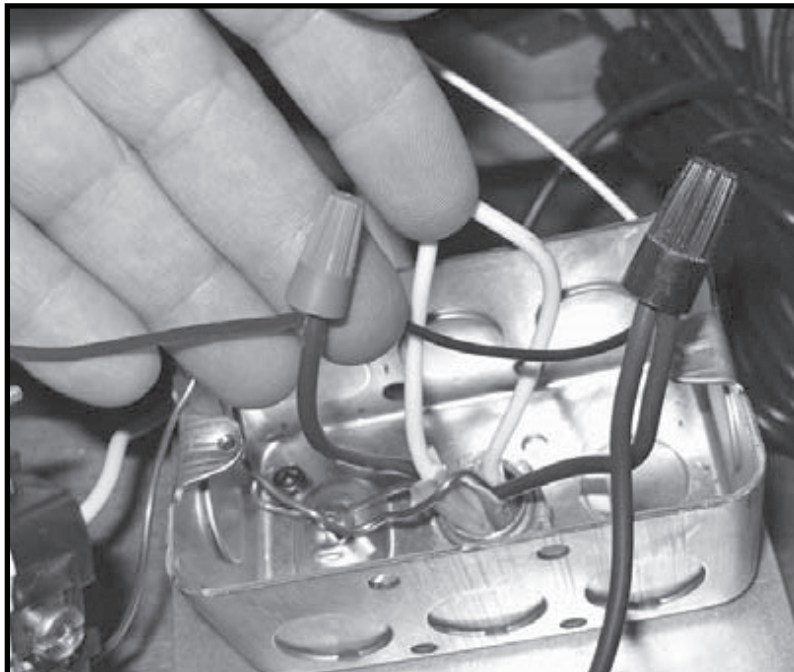

Figure 11: Wiring from blowers.
8. Connect one of the black wires from the blowers to the other pig tail from the module (Figure 11).